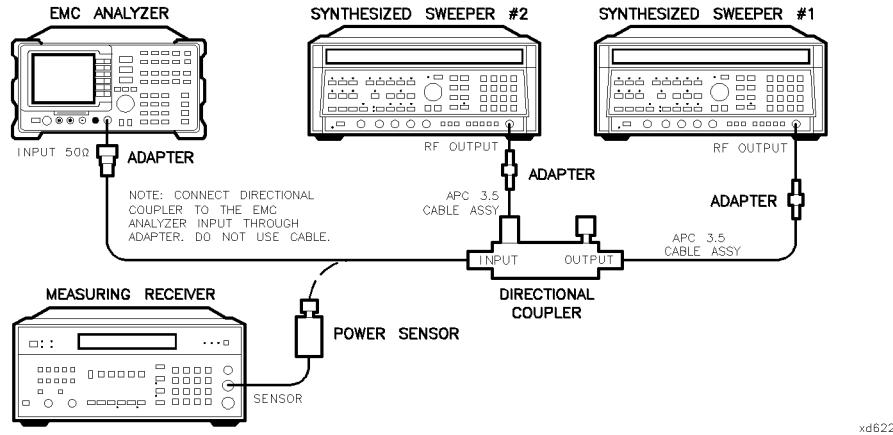

Figure 2-50.
35. Connect the equipment as shown in Figure 2-50 with the input of the directional coupler connected to the power sensor.